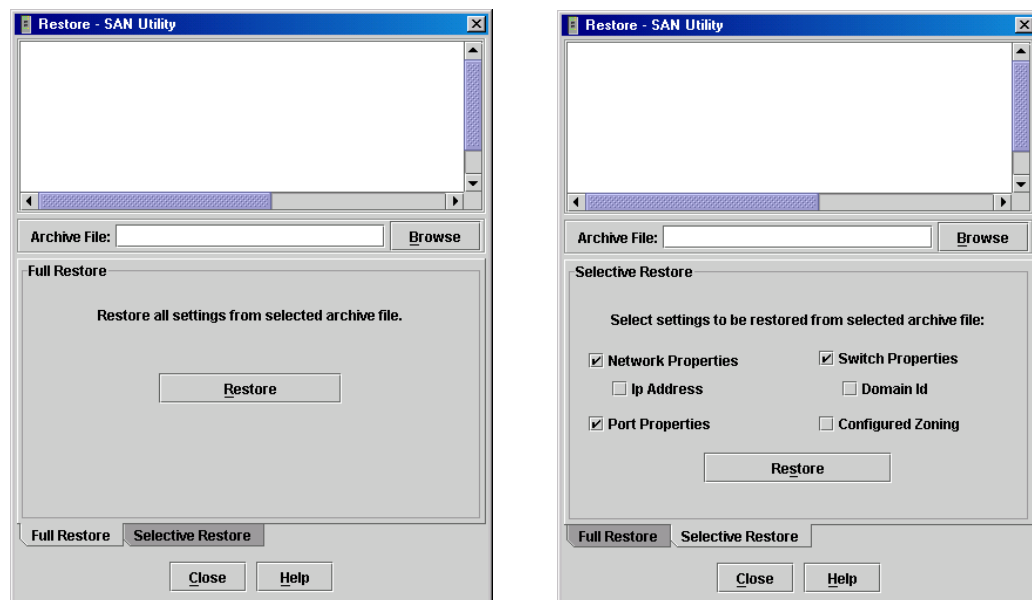

Figure 3-30. Restore Windows – Full and Selective
2. Open the Switch menu in the Faceplate window and select **Restore** to display the Restore window shown in Figure 3-30. The Restore window offers a **Full Restore** and a **Selective Restore** tab.